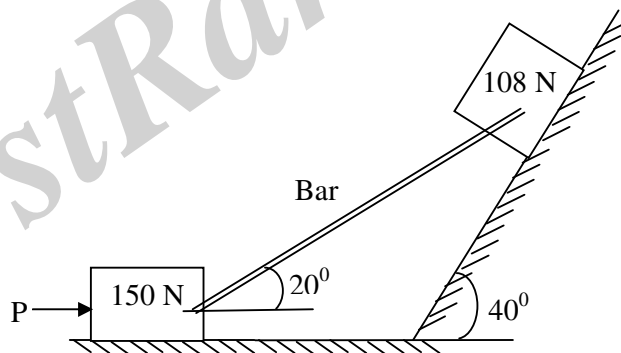

Figure 2
2. a) A 108 N block is held on a 40° incline by a bar attached to a 150 N block on a horizontal plane as shown in Figure 2. The bar which is fastened by smooth pins at each end, is inclined 20° to the horizontal. The coefficient of friction between each block and its plane is 0.325 for what horizontal force, P, applied to 150N block will motion to the right be un pending?